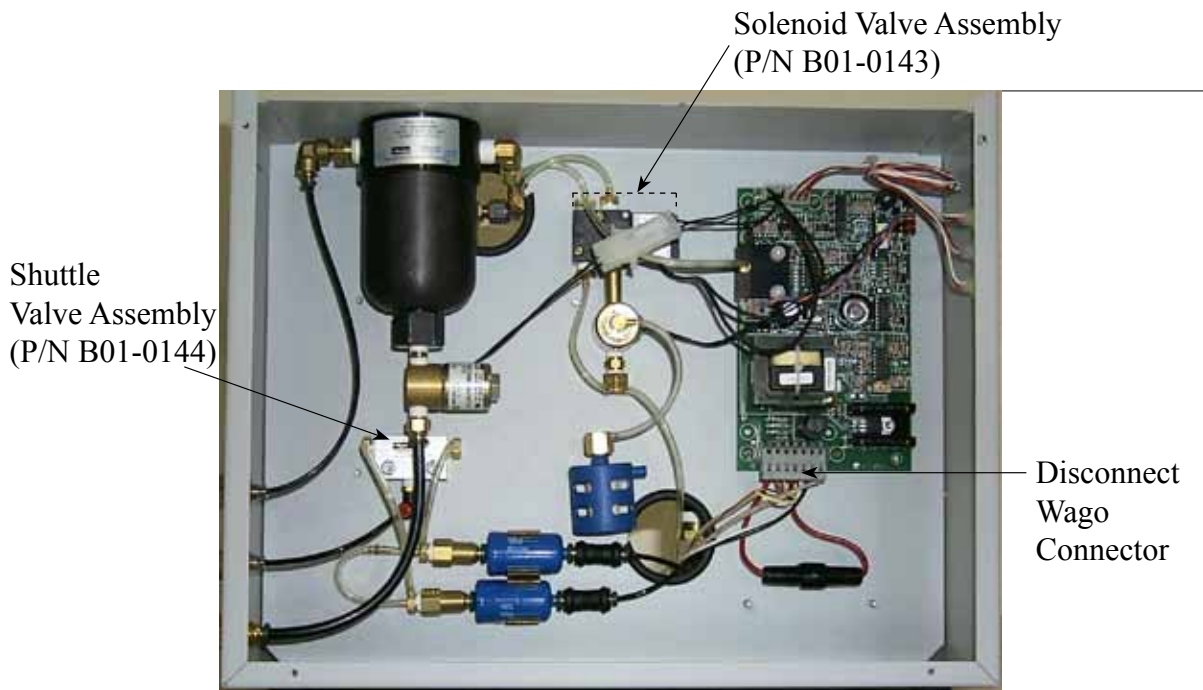

Figure 5
5. Disconnect the Wago connector on the circuit board and push it through the hole in the panel (see Figure 5).